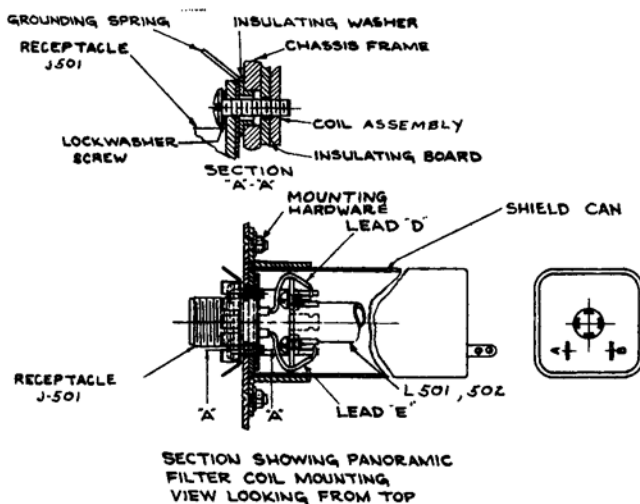
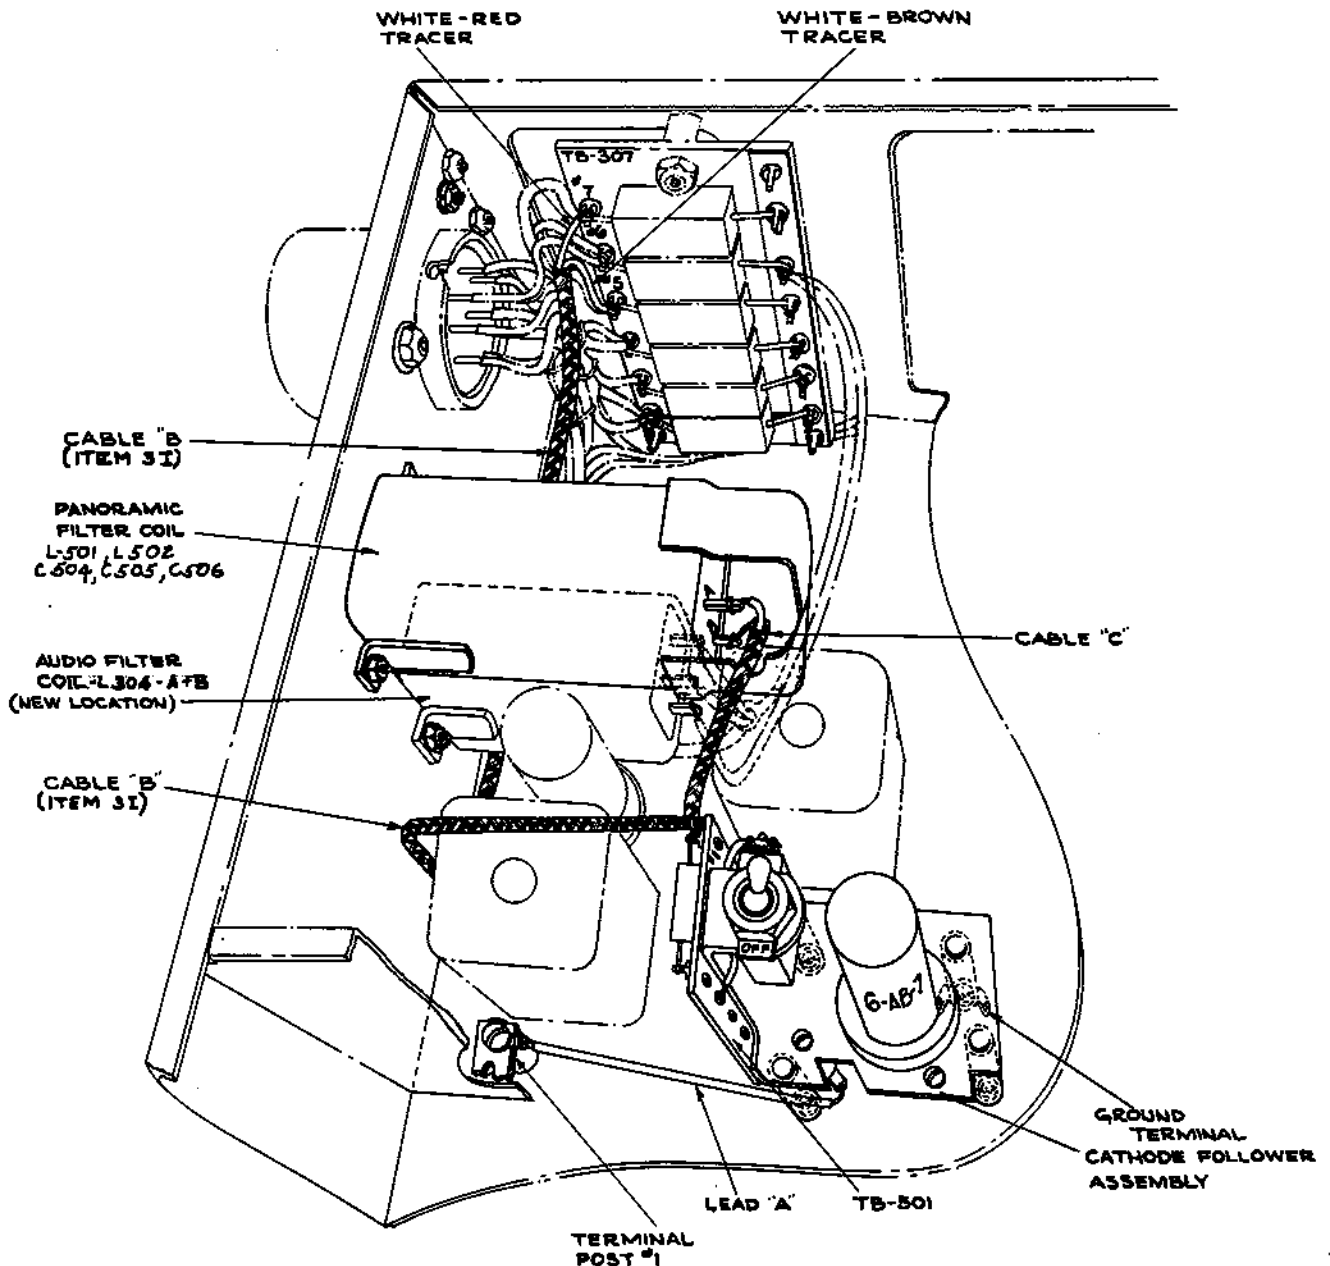

Figure 2-4—Panoramic Coupling Kit,
Figure 2-5—Installation of Panoramic Coupling Components (P-722277-C)
#### 6. Panoramic Low Pass Filter Unit Mounting. (See Figure 2-4.)
a. Connect leads "D" and "E" (item 40) on receptacle J501 (item 3F) as shown in Figure 2-4. Assemble the four insulating washers (item 4F), grounding spring (item 3G), receptacle
(item 3F), insulating board (item 3D), coil assembly (item 2), four lockwashers (item 4J), and four screws (item 4E) as shown in Figure 2-4. Add spaghetti (item 4P) over leads "D" and "E" and connect to terminals of coil assembly.
b. Place the shield can (item 3B) over the above assembly.
c. Fasten the shield can assembly (item 3B) to the chassis frame using two screws (item 4A), two lockwashers (item 4K), and two nuts (item 4M).
d. Place the shield can cover (item 3C) in position. NOTE: The cable "C" (see Figure 2-5) should be fed through the side hole.
#### 7. Cathode Follower Assembly Mounting. (See Figures 2-5 and 2-8.)
a. Mount the cathode follower assembly in position as shown in Figure 2-5.
b. Fasten this assembly to the chassis by means of the four screws (item 4C) and four lockwashers (item 4K). NOTE: Be sure to put the ground terminal in place as shown in Figure 2-5.
#### 8. Wiring. (See Figures 2-5 and 1-5.)